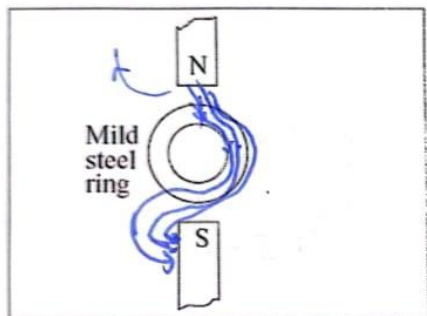

Figure 1.11
2.3.1 Arrange the two magnets and the mild steel ring as shown in Figure 1.11, placing a piece of cardboard/paper (or clear perspex sheet) on top of the arrangement. Sprinkle the iron filings evenly and lightly over the cardboard/paper and gently tap the cardboard/paper until the filings form a pattern.
3. Explain why the field patterns of Figure 1.11 and 1.12 are different when the rings are the same dimensions and the magnets are in the same locations.